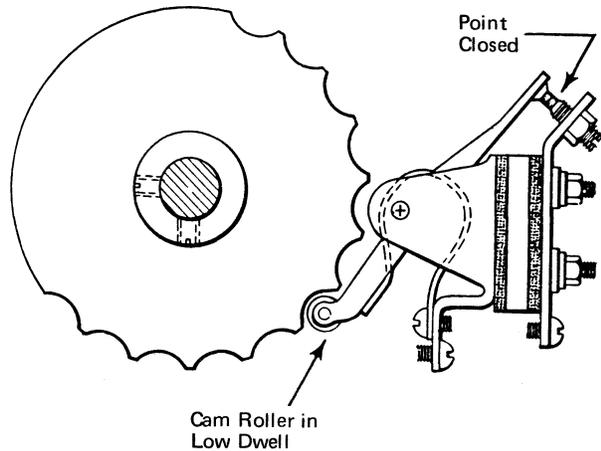

Figure 3-2. Rocker Arm Circuit Breaker—Closed Position
1. Align the points so that the sides and faces are parallel (Figure 3-2).
2. The cam follower roller must be clear of the cam surface when the points are closed (Figure 3-2).